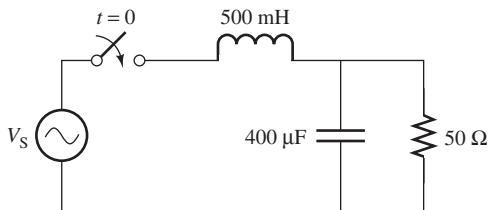

FIGURE P5.55 Circuit for Problem 5.55.
- 5.55 (H) The switch closes at $t = 0$ s. Given $v_S(t) = 20\sin(200t)$, find the current flow across the resistor $i_R(t)$ for the circuit shown in Figure P5.55.